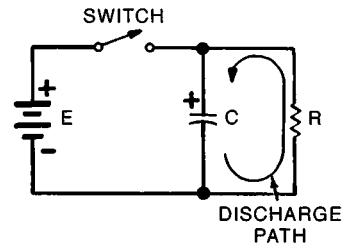

Figure 3-11
The time constant relationship also holds true when a capacitor discharges. See Figure 3-11. A capacitor is initially charged to an applied voltage, when you close the switch. When you open the switch, the capacitor discharges through the resistor. The time constant (T), is the time it takes the capacitor to discharge to 36.8% of the initial voltage. This is another way of saying that in one time constant, the capacitor's charge decreases by 63.2%. It takes approximately five time constants for the capacitor to discharge completely. If the capacitor is initially charged to 36 volts, after one time constant its voltage is $36 \times .368 = 13.25$ volts.